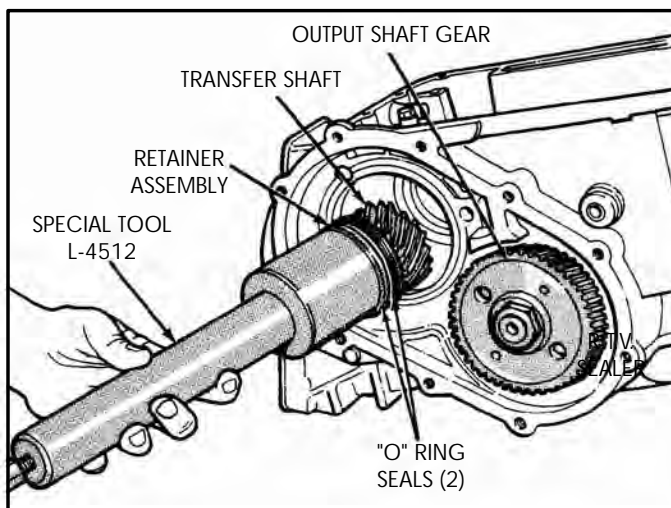

Figure 196
12. Using special tool L-4512, install the transfer shaft and retainer assembly into transaxle case, as shown in Figure 196.